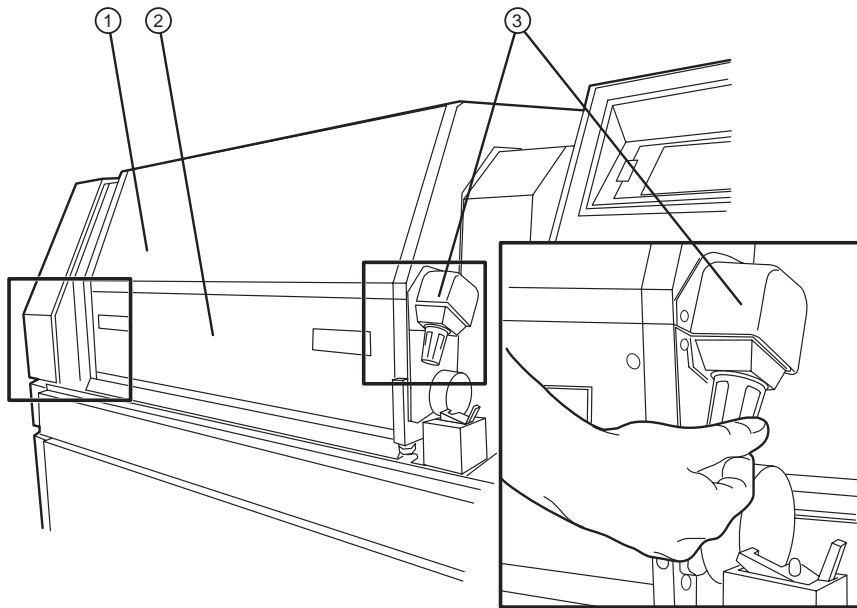

Figure 1-9 Attaching the foot to the bridge using the foot thumb screws.
2. Using the foot thumb screws (left and right), attach the foot to the bridge. Refer to Figure 1-9.